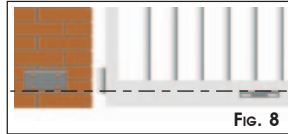

Fig. 8
- the lower edge of the rear bracket must be aligned with respect to the upper edge of the front bracket (Fig.8).